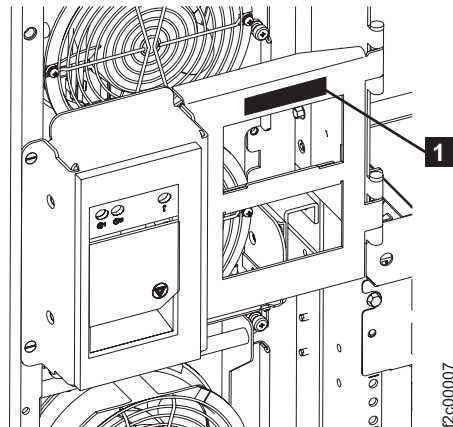

Figure 58. Rack operator panel label
1. View the rack number label to determine the rack location. See Figure 58 for the location of the rack number label.